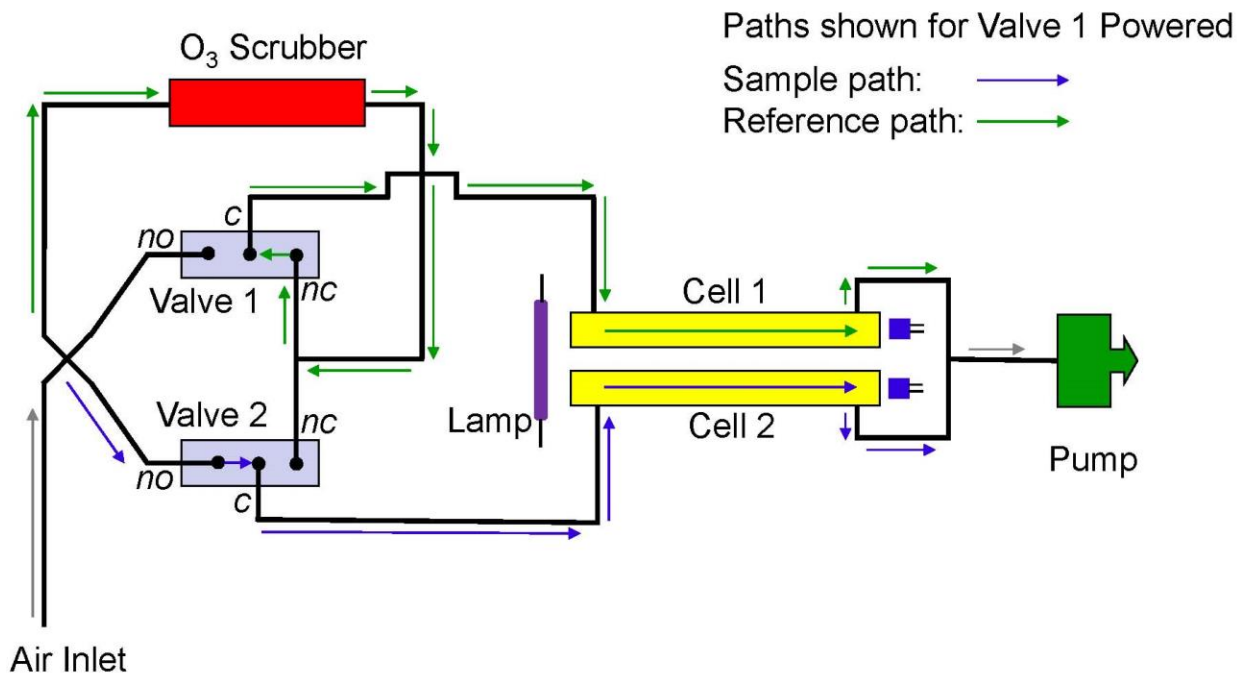

Figure 1-1. Schematic diagram of the Model 205 Dual Beam Ozone Monitor.
(Minor revision: Corrected Figure 1-1 in Section 1.1)
Figure 1-1 is a schematic diagram of the ozone monitor. Ozone is measured based on the attenuation of light passing through two separate 15-cm long absorption cells fitted with quartz windows. A single low-pressure mercury lamp is located on one side of the absorption cells, and photodiodes are located on the opposite side of the absorption cells. The photodiodes have built-in interference filters centered on 254 nm, the principal wavelength of light emitted by the mercury lamp. An air pump draws sample air into the instrument at a flow rate of approximately 1.5 L/min. A pair of solenoid valves switch in unison so as to alternately send ozone-scrubbed air and unscrubbed air through the two absorption cells. Thus, the intensity of light passing through ozone-scrubbed air (I_o) is measured in Cell 1 while the intensity of light passing through unscrubbed air (I) is measured in Cell 2. Every 2 seconds, the
Not shown on Figure 1-1 is the DewLine™, which serves to make the humidity entering the detection cell identical during I and I_o measurements. Please see our website for a technical discussion of the DewLine™ and its importance to ozone measurements: <https://2btech.io/dewline/>. Briefly, water vapor adsorbed to the inner wall of the detection cell changes the reflectivity of the cell. If humidity is not the same during I and I_o measurements, an offset in the ozone measurement will occur and can be up to several tens of ppb for sudden changes in ambient humidity. The offset will change with time as the internal ozone scrubber equilibrates with water vapor. Even for fixed-site ozone monitors, an offset measurement error will occur if the instrument is zeroed with dry tank air and then used to measure ozone in humid air. The DewLine™ solution to this often-ignored problem is unique to 2B Tech instruments.